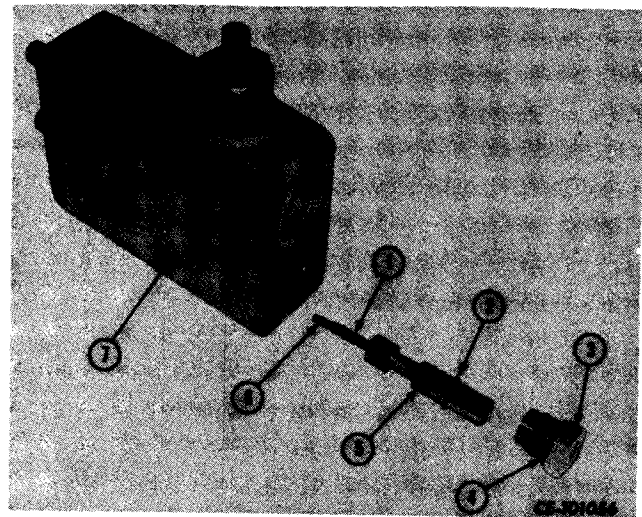

Figure 4-58
Remove plug (3, Fig. 4-58), disconnect spool (5), spring (1) and dowel (6) from valve body (7). Remove and discard "O" ring (4).
Install new "O" ring (4, Fig. 4-58), lubricated with clean transmission fluid, on plug (3). Install snap ring (2) on disconnect spool (5). Insert spring (1) and dowel (6) into end of spool. Install spool and plug in valve body (7). Tighten plug.